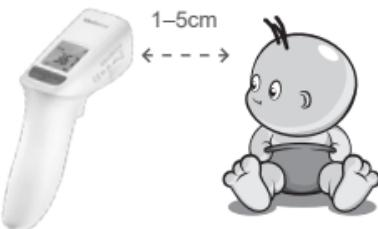

Figure 2: Measuring position and distance
- Align the thermometer with the middle of the forehead to measure body temperature (between the eyebrows) and keep the thermometer in vertical position, at a distance of 1–5 cm from the forehead, then press the On/Scan button, and body temperature will be displayed in less than 2 seconds (figure 2).